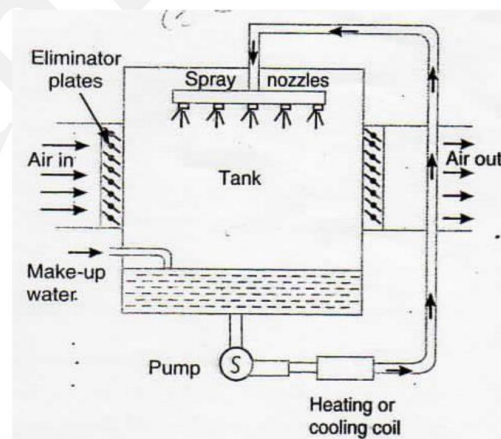

Fig. 20. Air-washer.
2. **Indirect method.** In this method, the water is introduced into the air in the air-conditioning plant, with the help of an air-washer, as shown in Fig. 20. This -conditioned air is then supplied to the room to be air-conditioned. The air-washer humidification may be accomplished in the following three ways: